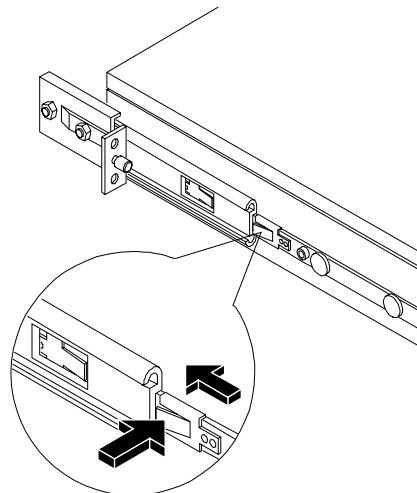

Figure 13-7. Pressing the Stop Release
- c. Pull the HP Netserver out several inches, then press the stop release on both slides to allow the Netserver to slide completely into the rack. See Figure 13-7.